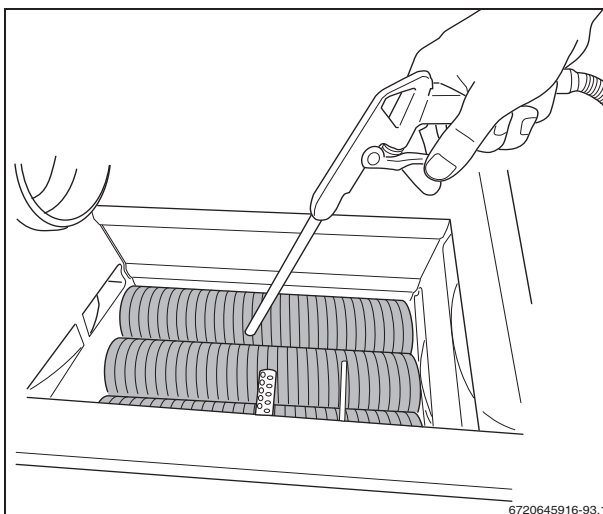

Fig. 92 Cleaning the heat exchanger
- Clean the heat exchanger with compressed air or a soft brush (fig. 92)